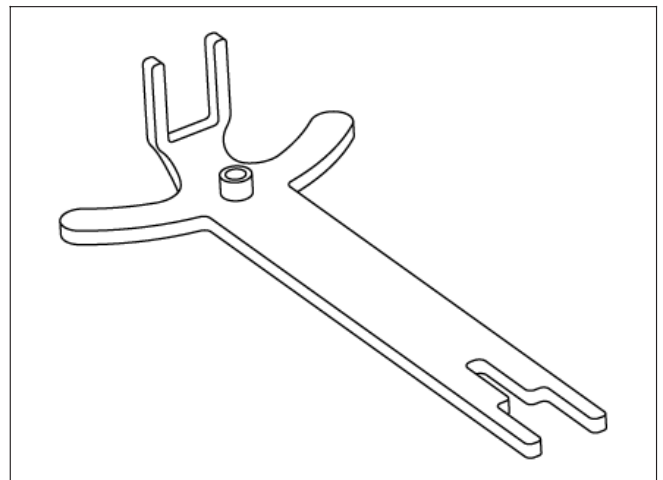

Figure 1-16 Flywheel Holder, P/N 180919.
- Flywheel Holder, P/N 612470(Figure 1-15) or P/N 180919(Figure 1-16).